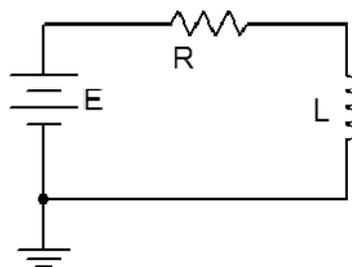

Figure 1.1
1. Using figure 1.1 with $E=10\text{V}$, $R=47\text{k}$, and $L=10\text{ mH}$, calculate the time constant and record it in Table 1.1. Also, calculate and record the expected steady state inductor voltage in Table 1.2.